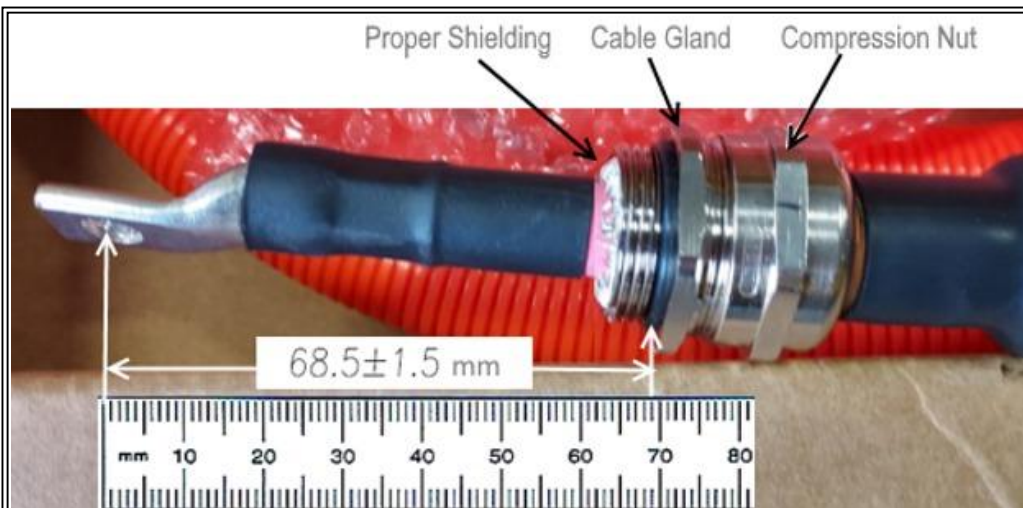

Figure 10:DC Cable Measurement - within spec 69 mm
- 6 . Proper cable measurement 69 mm - Figure 10 .